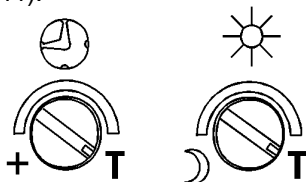

FIGURE 11
- Turn the Motion Sensor Lite control and the Time control clockwise to the edge – the TEST position (FIGURE 11).